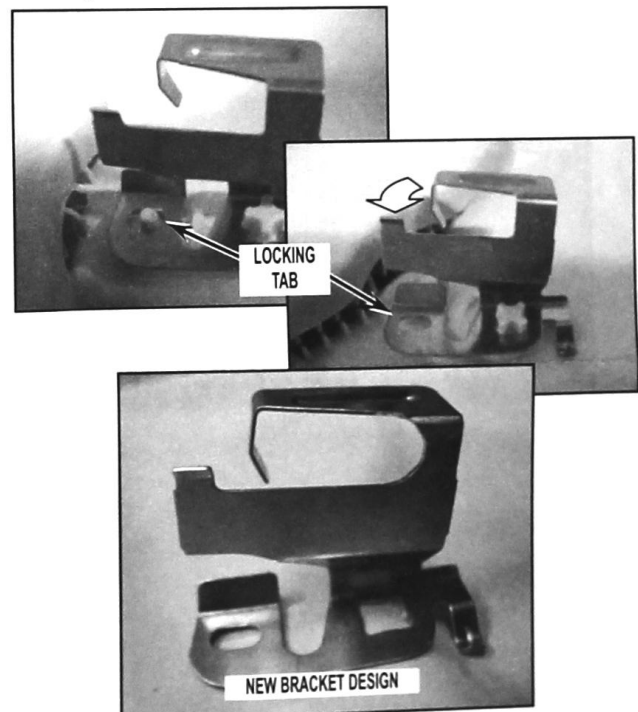

FIGURE 4
10. Remove and discard both metal heater support brackets by lifting up on the locking tab and rotating the bracket 45 degrees counter-clockwise. See *Figure 4*.